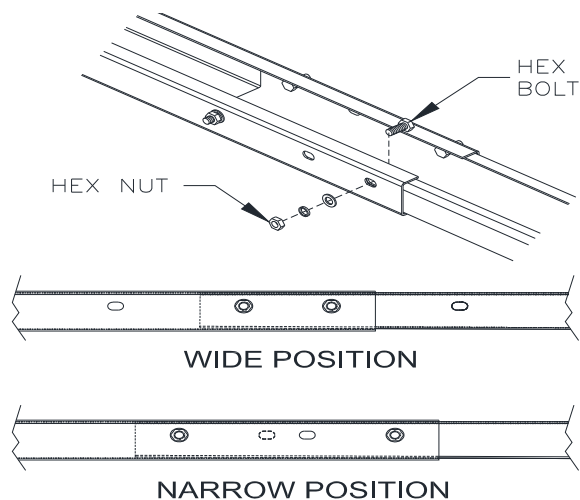

Fig 6 – Overhead
- 14) Assemble two Overhead pieces using (6 sets) M10 x 20 bolt, nut, flat washer, and lock washer as shown in **Fig 6**. Hand-tighten bolts to allow adjustment if needed. Use Base Width (D) Dimension to determine proper holes to use.